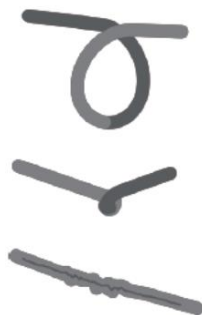

Fig. 5
9. Visually inspect the cable to ensure there are no loops or potential kinks (Fig. 5).